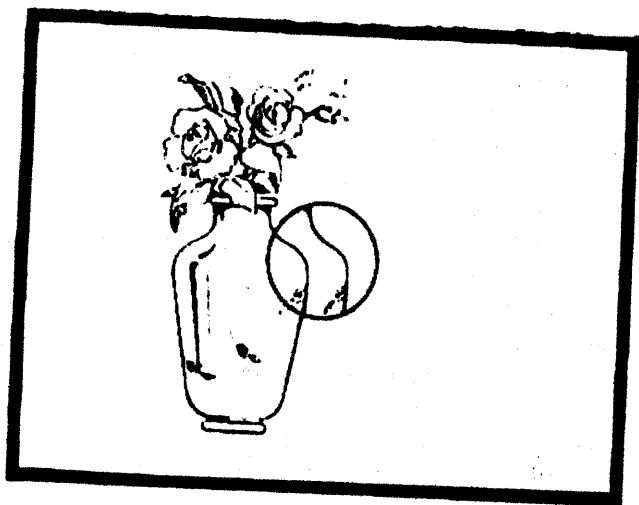

Fig. 12.
double image (Fig. 12). By turning the lens by the focusing ring (13) superpose the both images of the subject. In this case the lens will be focused exactly and it will form a sharp image of the subject on the film.